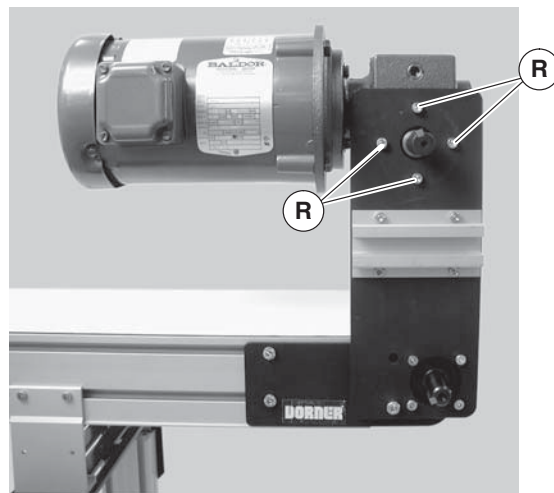

**Figure 16**
4. Loosen taper-lock screws (Figure 16, item W) and remove drive pulley: Insert one (1) of taper lock screws (W) in remaining hole (Z). Tighten screw (W) until pulley is loose. Remove pulley (Figure 17, item J), taper hub assembly (AB), and timing belt (Q).